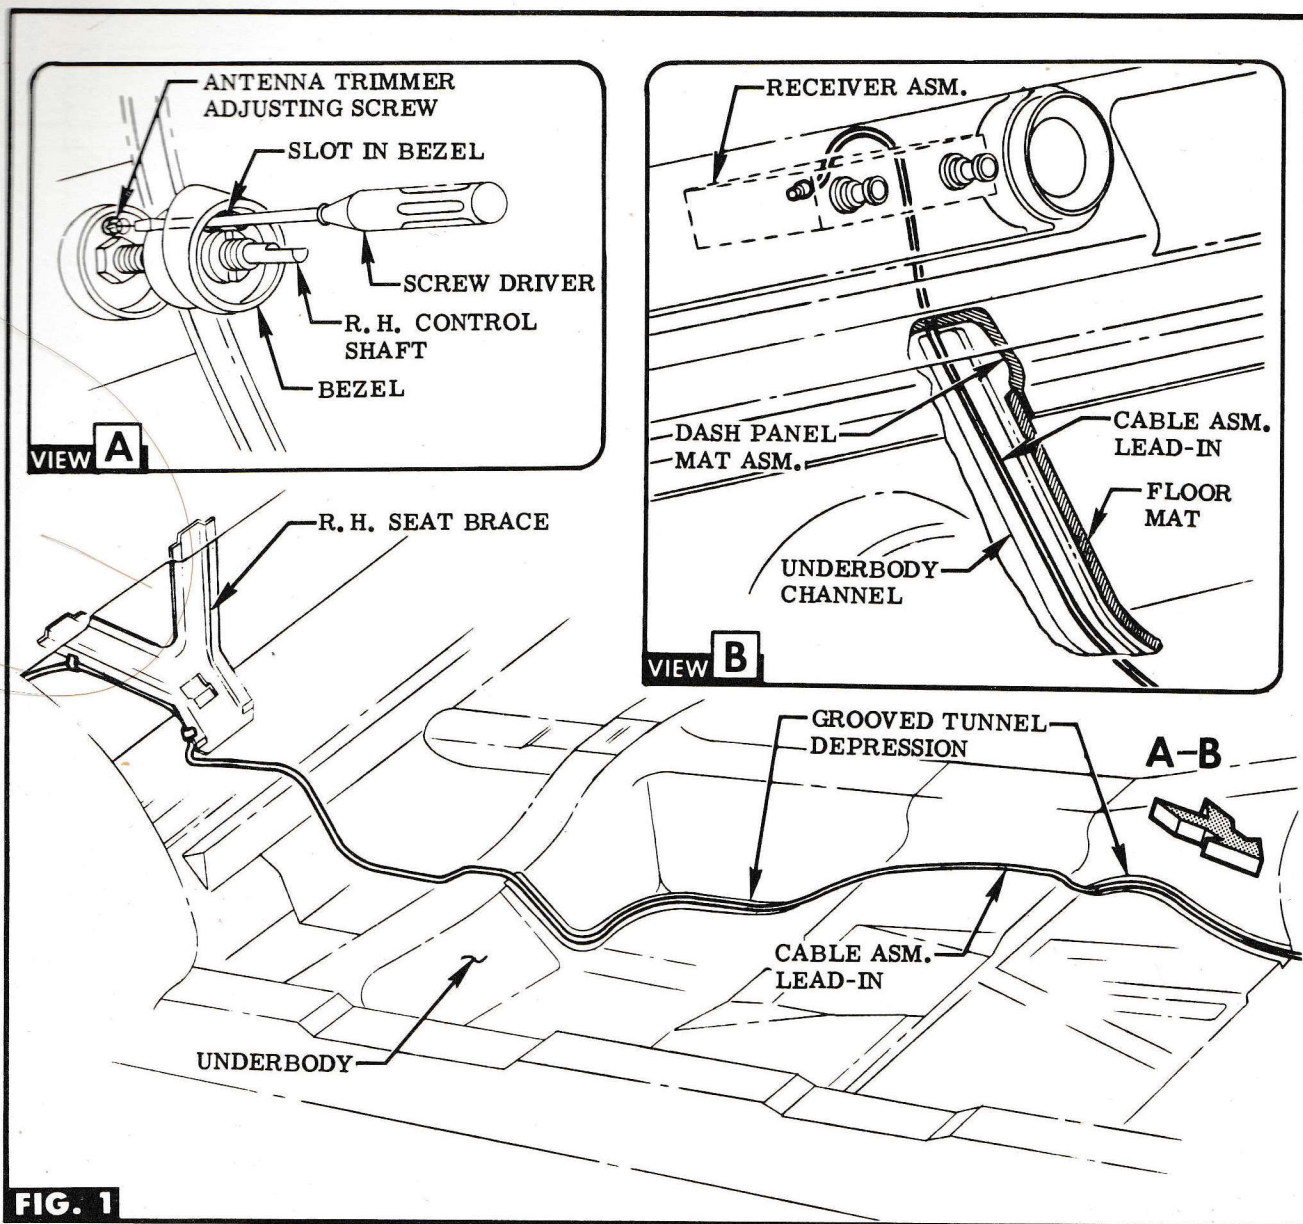

FIG. 1
THRU HOLE OVER TO R. H. SEAT BRACE. ATTACH CABLE TO BRACE WITH CLIPS. DISCARD REMAINING CLIP. SEE FIG. 1 & VIEW A.
STEP 3 (SPORTS COUPE-V8) ROUTE CABLE ASM. BEHIND WHEELHOUSE BRACE & DIAGONAL BRACE & THRU OPENING ABOVE WHEELHOUSE FLANGE. ATTACH CABLE TO DIAGONAL BRACE WITH CLIP. ROUTE CABLE OVER WHEELHOUSE & ATTACH TO R. H. SEAT BRACE WITH CLIPS. SEE FIG. 1 & VIEW B.
STEP 1 REMOVE REAR SEAT & SEAT BACK. TURN BACK FLOOR MAT TO EXPOSE R. H. TOE PANEL & UNDERBODY ROUTING AREA. SEE FIG. 1.
STEP 2 ROUTE CABLE ASM. FROM R. H. SEAT BRACE ALONG UNDERBODY TO GROOVED DEPRESSIONS BESIDE TUNNEL TO FRONT OF VEHICLE. CONTINUE ROUTING CABLE UP UNDER BODY CHANNEL AT TOE PANEL UNDER FLOOR MAT & DASH PANEL MAT ASM. TO BACK OF INSTRUMENT PANEL. SEE FIG. 1 & VIEW B.